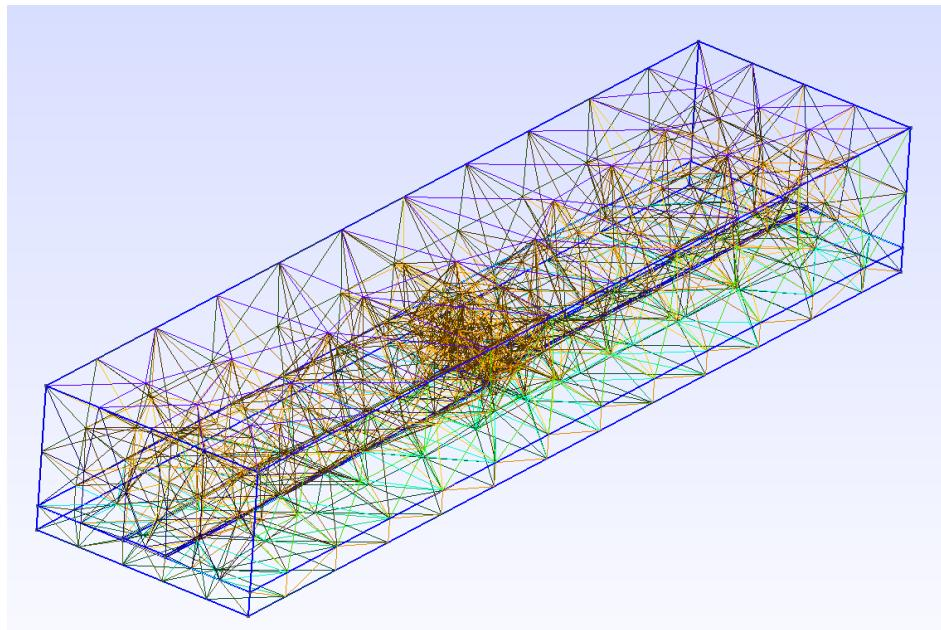

Figure 14: Screenshot of the meshed microstrip step in width.
- Mesh the geometry by selecting in the options tree click `Mesh→3D`. A screenshot of the mesh is shown in Fig. 14.